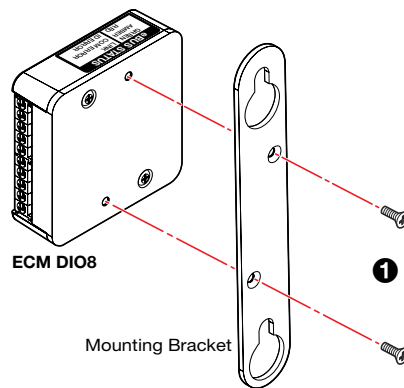

Figure 8. Attaching the Mounting Bracket to the ECM DIO8
3. If it is not already attached, secure the mounting bracket to the back of the ECM DIO8, using the two provided screws (see figure 8, ❶).